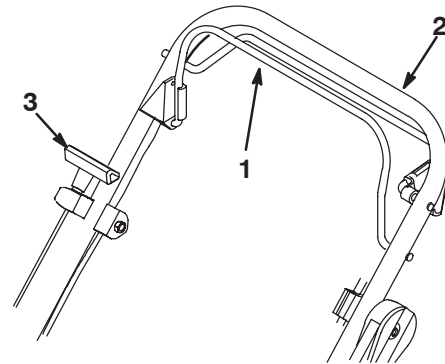

**Figure 12**
2. Push primer three (3) times (Fig. 12). Wait about two (2) seconds between each push.